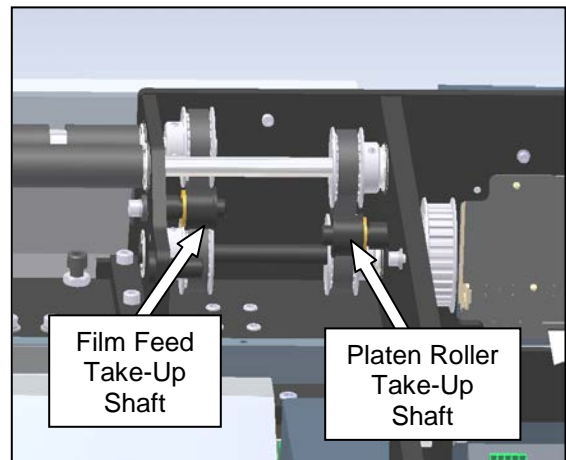

Figure 3-166. Belt Take-Up Shafts
18. Slide the film feed belt take-up shaft to the belt to put tension on the belt. This belt should deflect approximately 1/16" at the center of belt span for proper tension. Repeat on the platen roller take-up shaft. As shown in (Figure 3-166.)